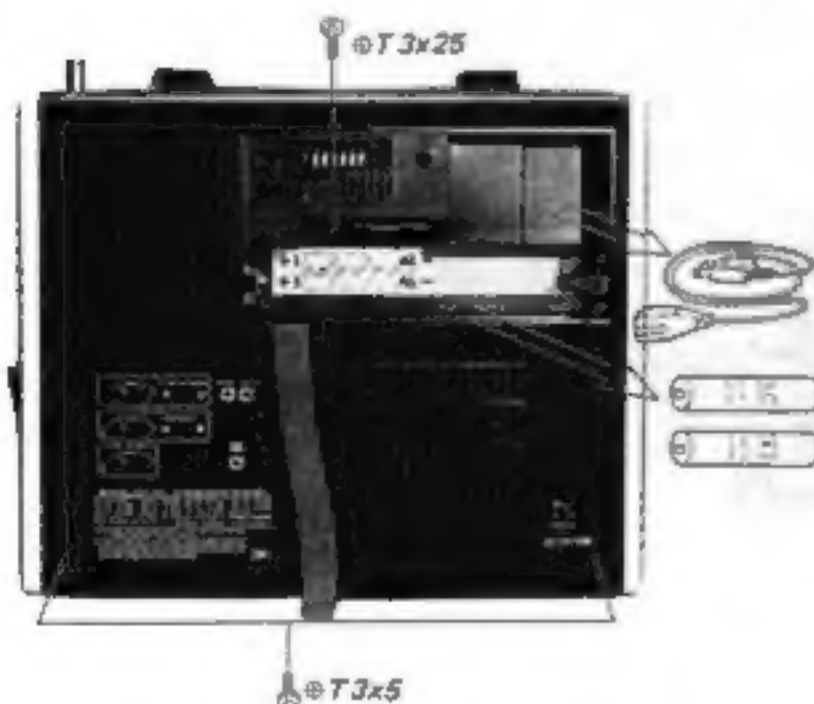

Fig. 2-2
4. Remove the three screws shown in Fig. 2-2.